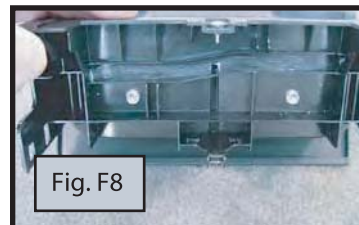

Fig. F8
3. Insert lens from inside of cup holder box. (Fig. F8)